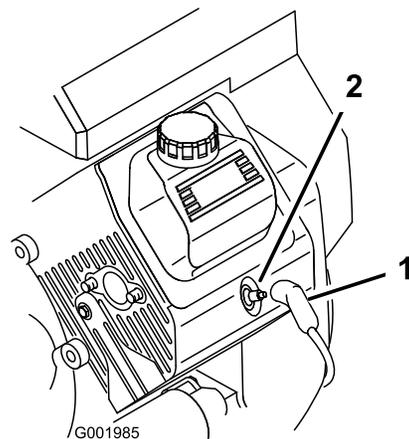

Figure 42
3. Pull the wires off the spark plugs (Figure 42).
3. Push the wires onto the spark plugs (Figure 42).